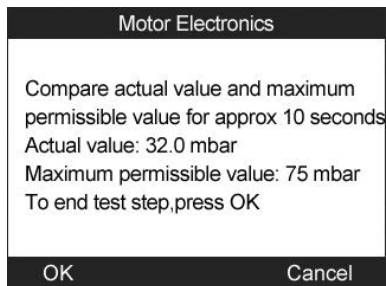

Figure 11.42
- d) Check the exhaust backpressure with engine running at 2000 rpm. The tool will read off the actual backpressure value and compare with the upper limit (Figure 11.42). Select **OK** to continue the test or **Cancel** to return to previous menu.